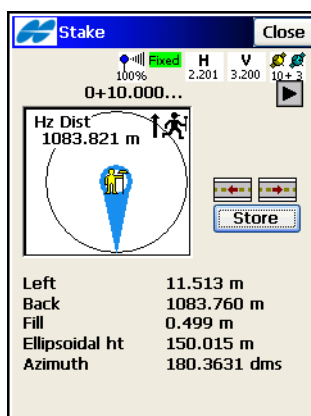

Figure 13-21. Stakeout
The *Stake* screen (Figure 13-21) shows the north direction, and the relative position of the antenna and the target. The panel on the right displays the parameters of the target.
- **OK** – saves the changes and opens the *Stakeout* screen (Figure 13-21).